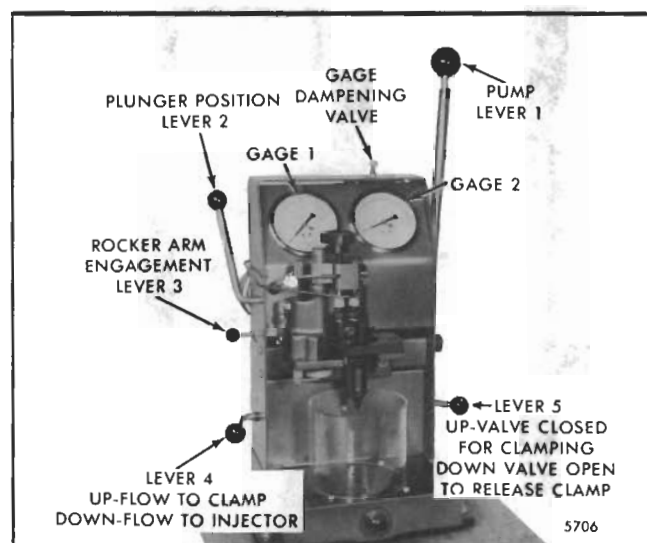

Fig. 13 - Injector in Position for Testing with Tester J 23010
1. Refer to Fig. 13 and position the injector tester levers as follows:
1. Move lever 4 *down* and operate pump lever 1 with even strokes (Fig. 13).